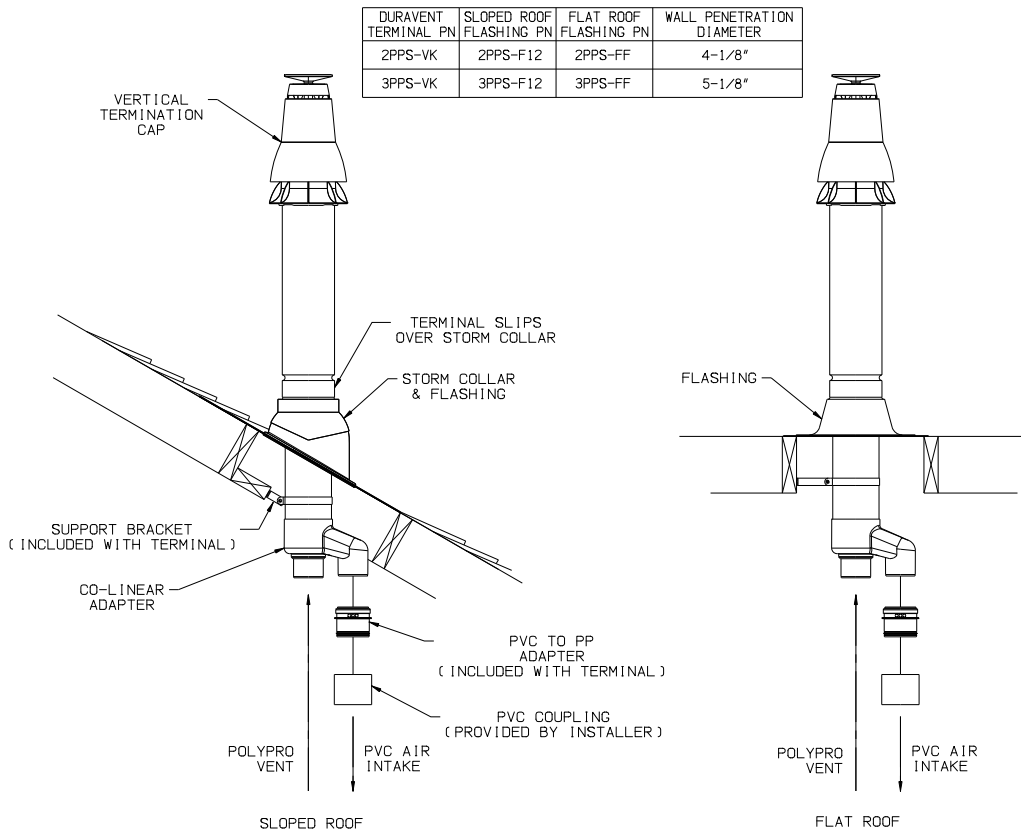

FIGURE 7.40: INSTALLATION OF DURAVENT POLYPRO CONCENTRIC TERMINAL THROUGH ROOF
7. Vertical Installations using PolyPro Vertical Concentric Termination Kit #2PPS-VK or #3PPS-VK (Figure 7.40):
- b. Use a roof flashing and storm collar to prevent moisture from entering the building. See Figure 7.40 for the model number of the flashing to be used depending on the type of roof. Seal the roof flashing to the roof using generally accepted practice for the type of roof on the installation.